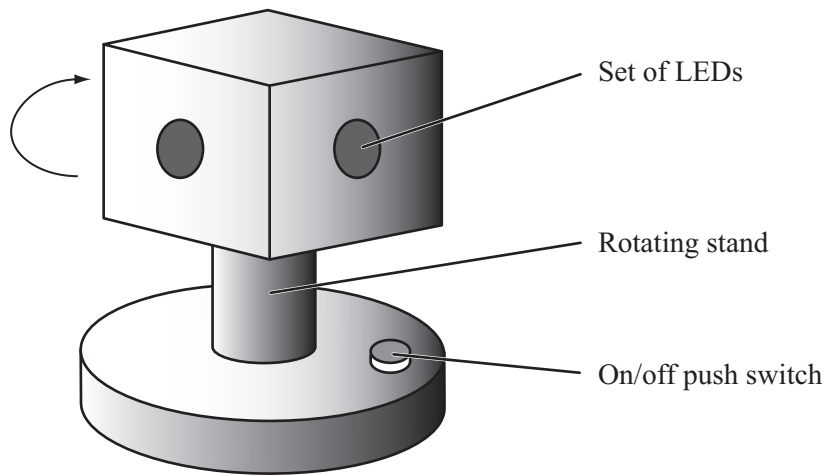

Fig. 20
- (c) A student has decided to design, program and make a rotating disco unit which has a set of LEDs on each of its four faces. The disco unit is shown in **Fig. 20**.